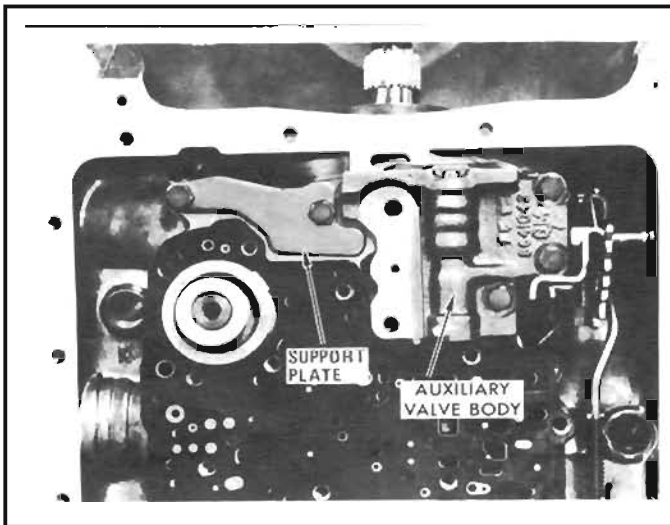

Figure 21 Auxiliary Valve Body and Support Plate
17. Remove auxiliary valve body attaching bolts and auxiliary valve body. *See Figure 21.*